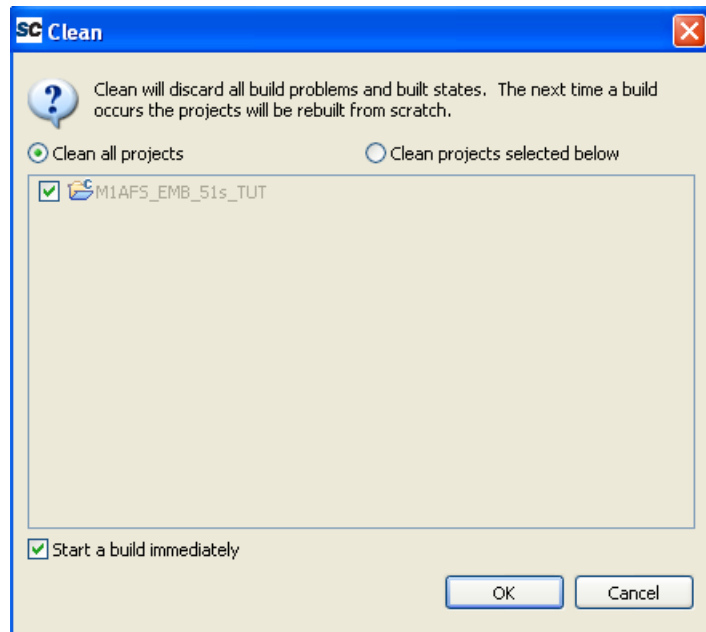

Figure 5-3 · Cleaning Options
3. The Clean box will open. You can clean all the projects in your workspace or only selected projects (Figure 5-3).